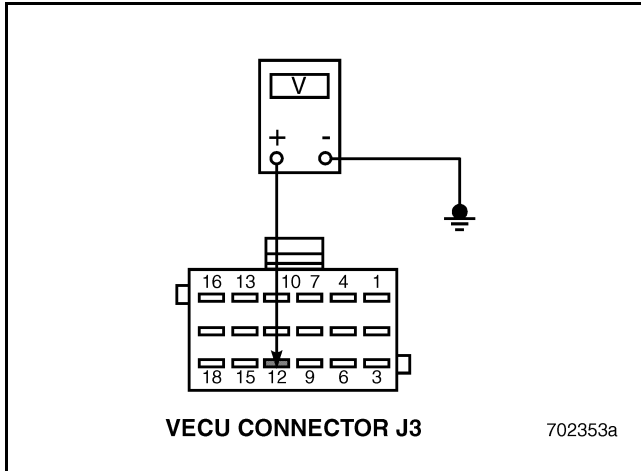

Figure 472
4. Measure the voltage between VECU connector J3 pin 12 and a good ground (see Figure 472).